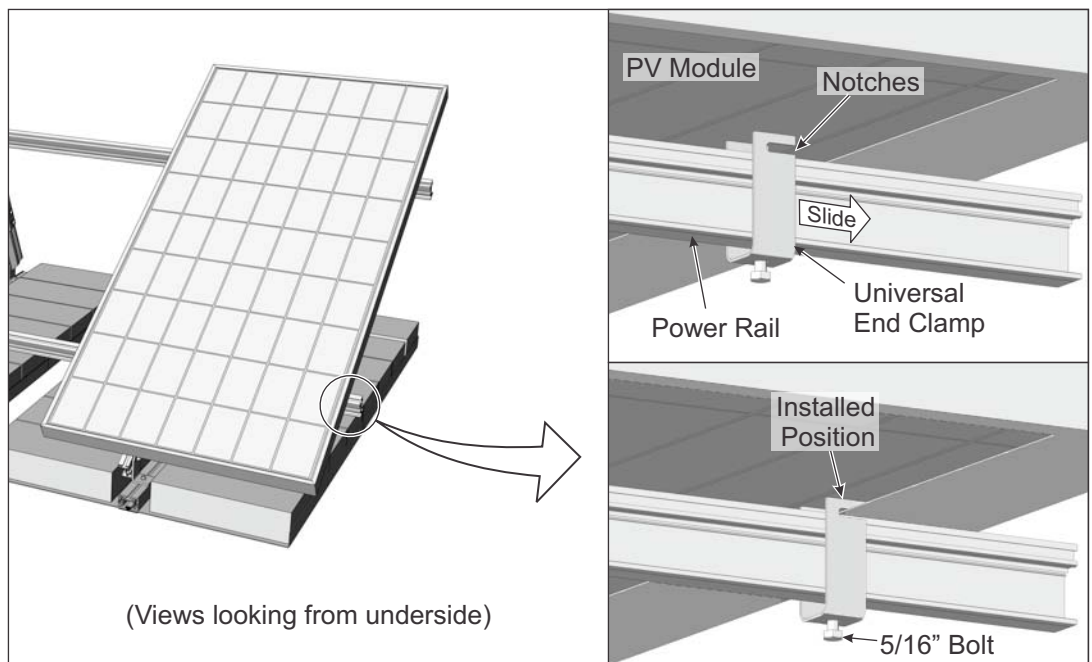

Figure 12-1: Installing PV Modules using Universal End Clamp
- B1. For use with "**Universal End Clamps**": Position Universal Clamp underneath module with notches facing the outside edge of the module, and the rail centered between the forks of the clamp. Slide the clamp notches towards module flange until the flange bottoms out in the notches. Tighten 5/16" bolt on bottom of universal end clamp. **Torque to 14-16 ft.-lbs.** Repeat for both end clamps. (See Figure 12-1)